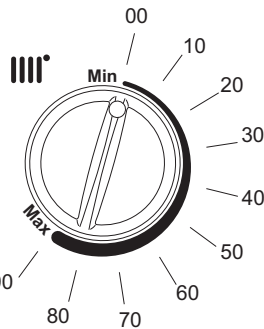

Fig. 31
4. Normally the display will show the current temperature of the water in the boiler. As the knob is turned the display will show the selected curve (Fig. 31 & 32).